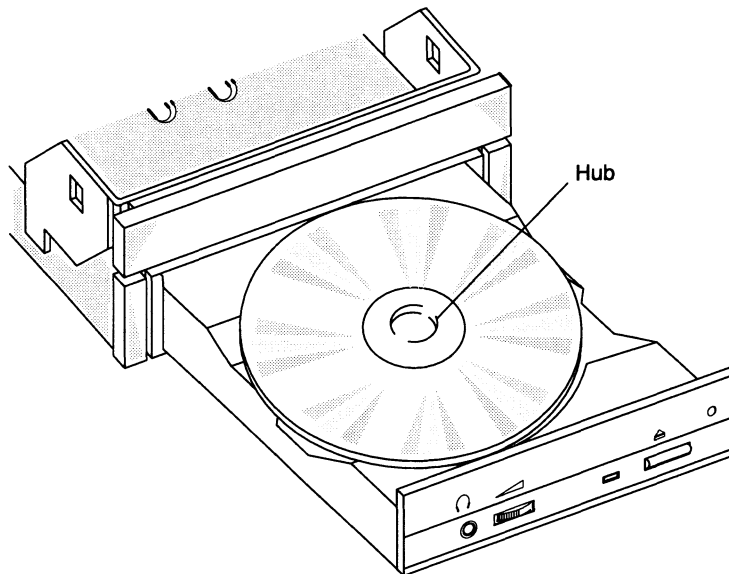

Figure 12 Inserting a CD-ROM into the loading area
6. Insert the CD-ROM in to the loading area (label side up). Then press the CD-ROM gently onto the hub. You will hear a click indicating that the CD-ROM is locked in the loading area. See Figure 12.